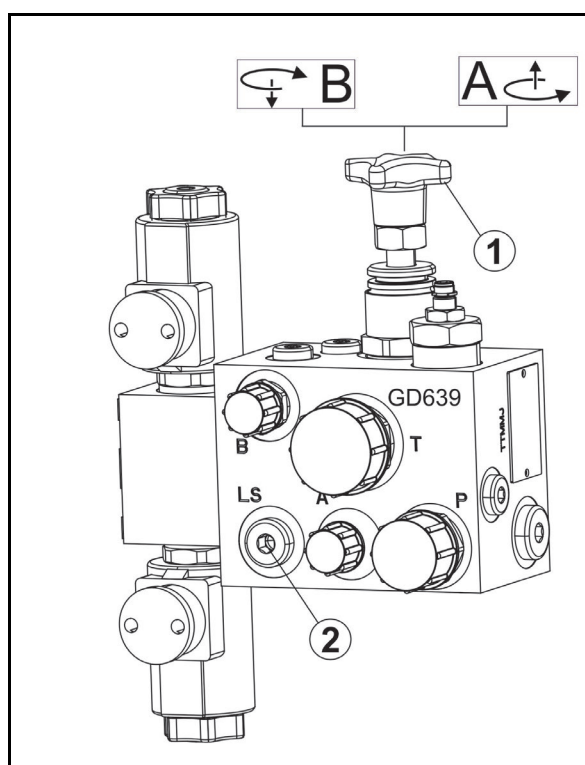

Fig. 97
1. Secure the magnets (1) to the cardan shaft with the hose clip (Fig. 97/2).
2. Secure the sensor (3) to the vehicle frame opposite the magnet using a universal holder (4).